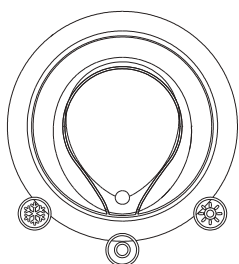

fig. 9
- Position the mode selector to ☉ (off/reset) (fig. 9).